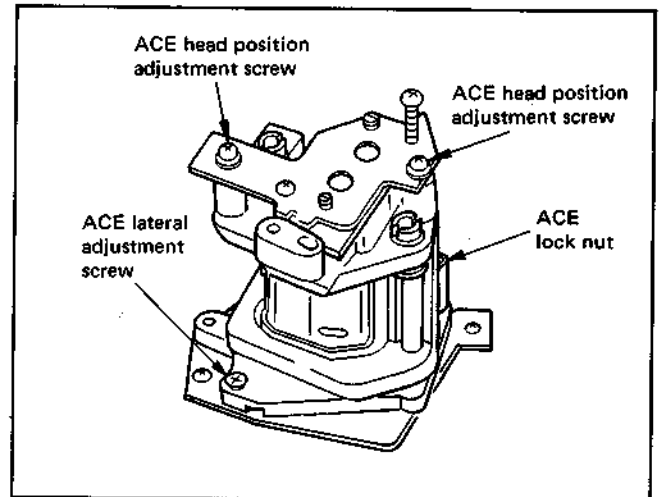

Fig. 1-14 ACE Assembly
- 2) Loosen the ACE lock nut about 360°. (Fig. 1-14)